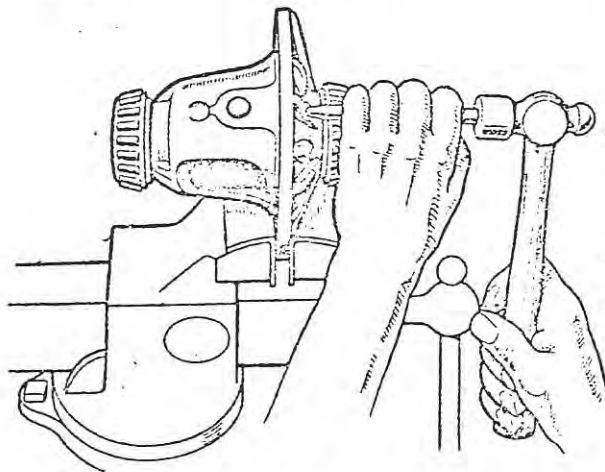

FIGURE 4
- (1) Bend down the tabs of the drive gear screw locking straps and remove the drive gear screws.
- (2) Remove the drive gear from the differential case by tapping with a rawhide mallet.
- (3) Using a small punch drive out the pinion mate shaft locking pin, which is secured in place by peening the case, and remove the pinion mate shaft. Figure 4 indicates the direction in which the locking pin is removed; it is not possible to drift the pin in the opposite direction.
- (4) Remove the shaft spacer.
- (5) Rotate the side gears by hand until the pinions are opposite the openings in the differential case, then remove the differential gears taking care not to lose the thrust washers fitted behind them.
- (6) If the drive gear setting is to be altered it will be necessary to withdraw the differential bearings, using the extractor, Tool No. SL.14 (SE.103) with appropriate adaptors, to gain access to the shims located between the bearing and the abutment face on the differential case.